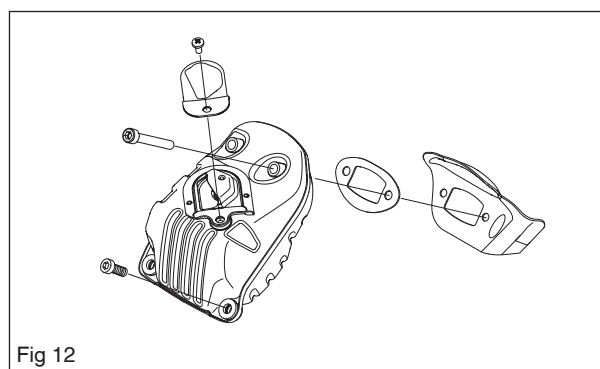

Fig 12
2. If the carburettor is fitted with spark arrestor mesh, this is removed. If necessary, use the combination spanner to push down the plate edge and remove the spark arrestor mesh. See figure 12.